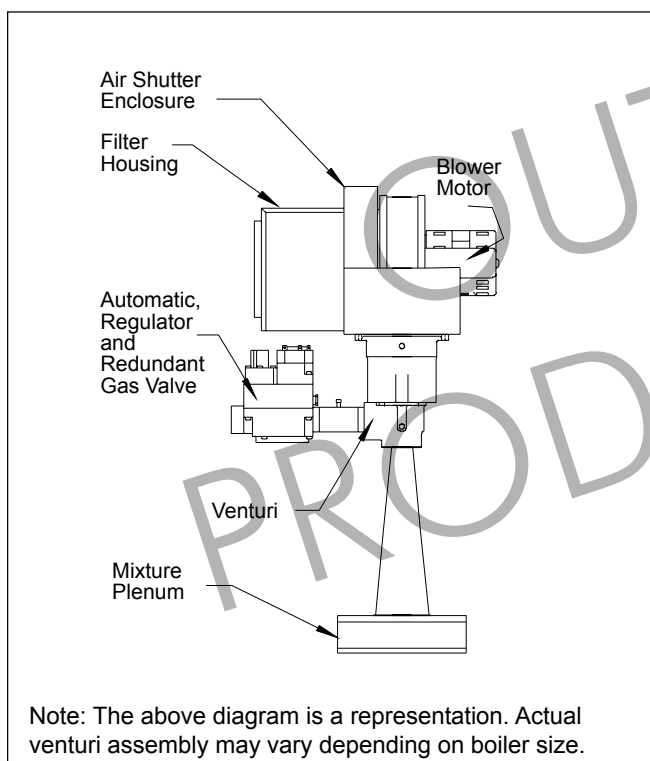

Figure 3. Boiler Gas Valve Arrangement.
1. Gas piping installation must be in accordance with the latest edition of ANSI Z223.1/NFPA 54. In Canada, the installation must be in accordance with CSA B149.1 and all local codes that apply. See Figure 3 for boiler gas valve arrangement.